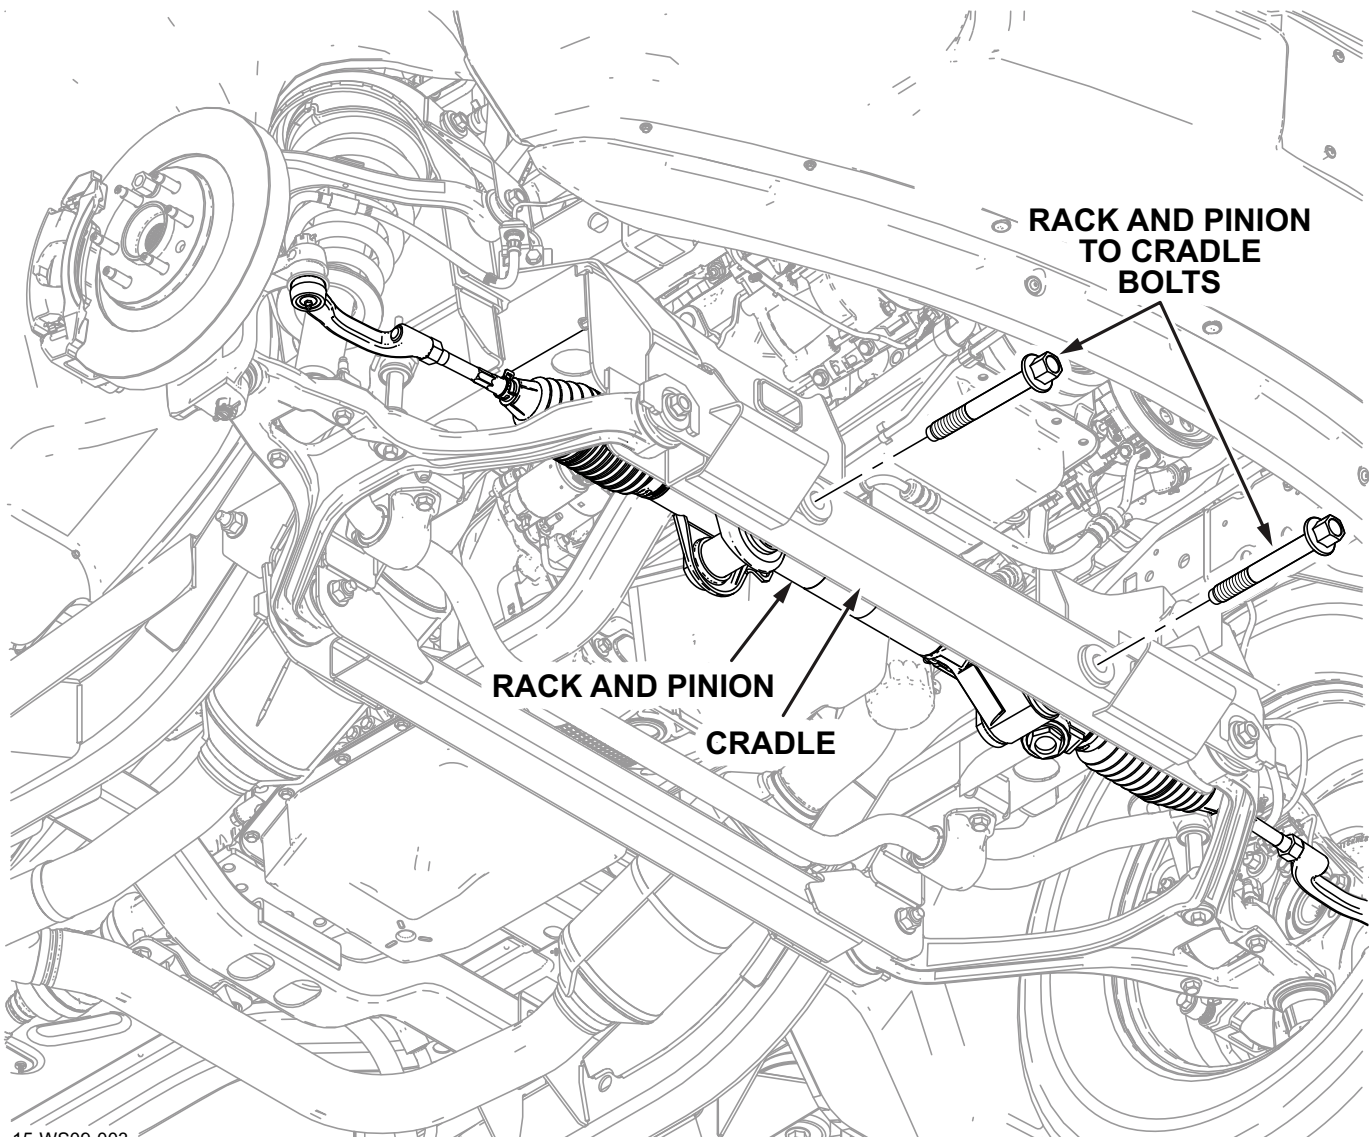

Figure 2: Remove Rack & Pinion Assembly from Crossmember
4. Disconnect the Power Steering Lines to the Rack & Pinion. Remove the two Rack & Pinion-to-Cradle bolts and nuts; **do not** disconnect the Tie Rod ends. Lay the Rack & Pinion assembly across the lower control arms (See Figure 2).